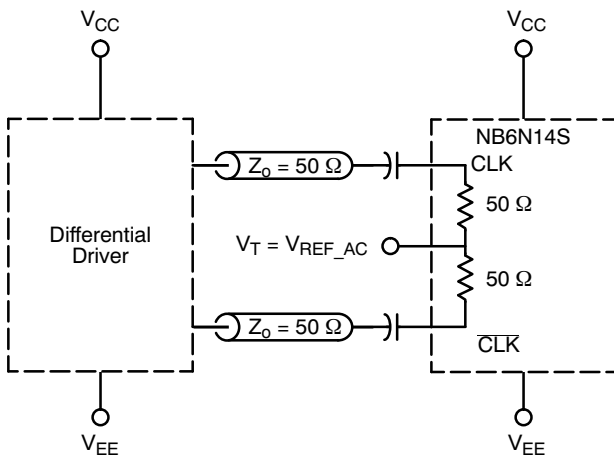

Figure 10. Capacitor-Coupled Differential Interface (V_T Connected to V_{REF_AC})
DIFFERENTIAL INPUTS DRIVEN SINGLE-ENDED (Figures 10, 11, 15, and 17)
11. V_{REF_AC} used to rebias capacitor-coupled inputs only (see Figures 10 and 11).